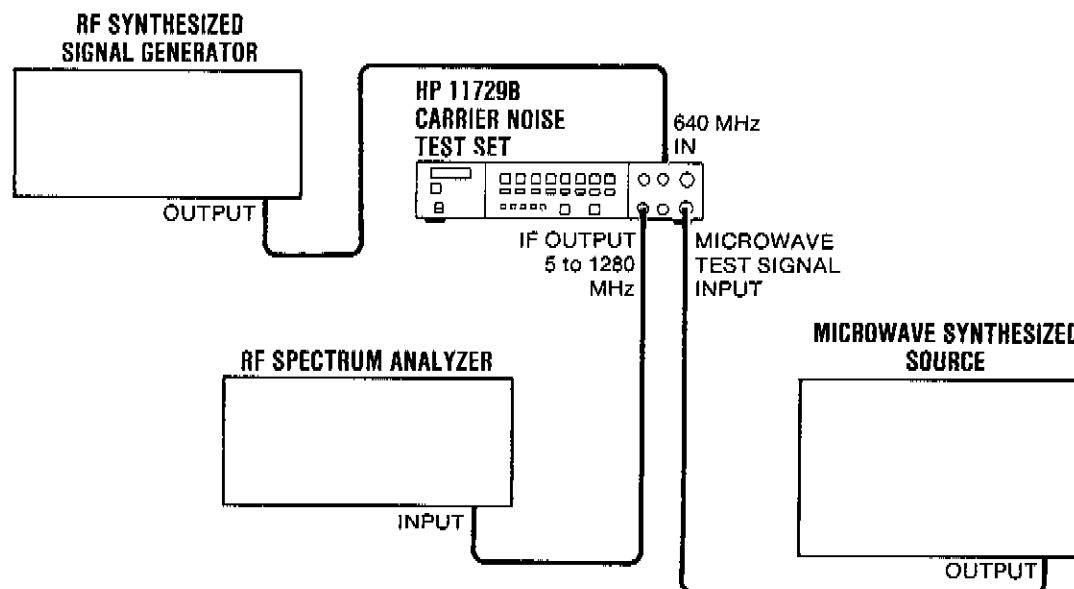

Figure 4-1. Measurement Frequency Range, IF Output Bandwidth and Level Test Setup
1. Connect the test set up shown in Figure 4-1.